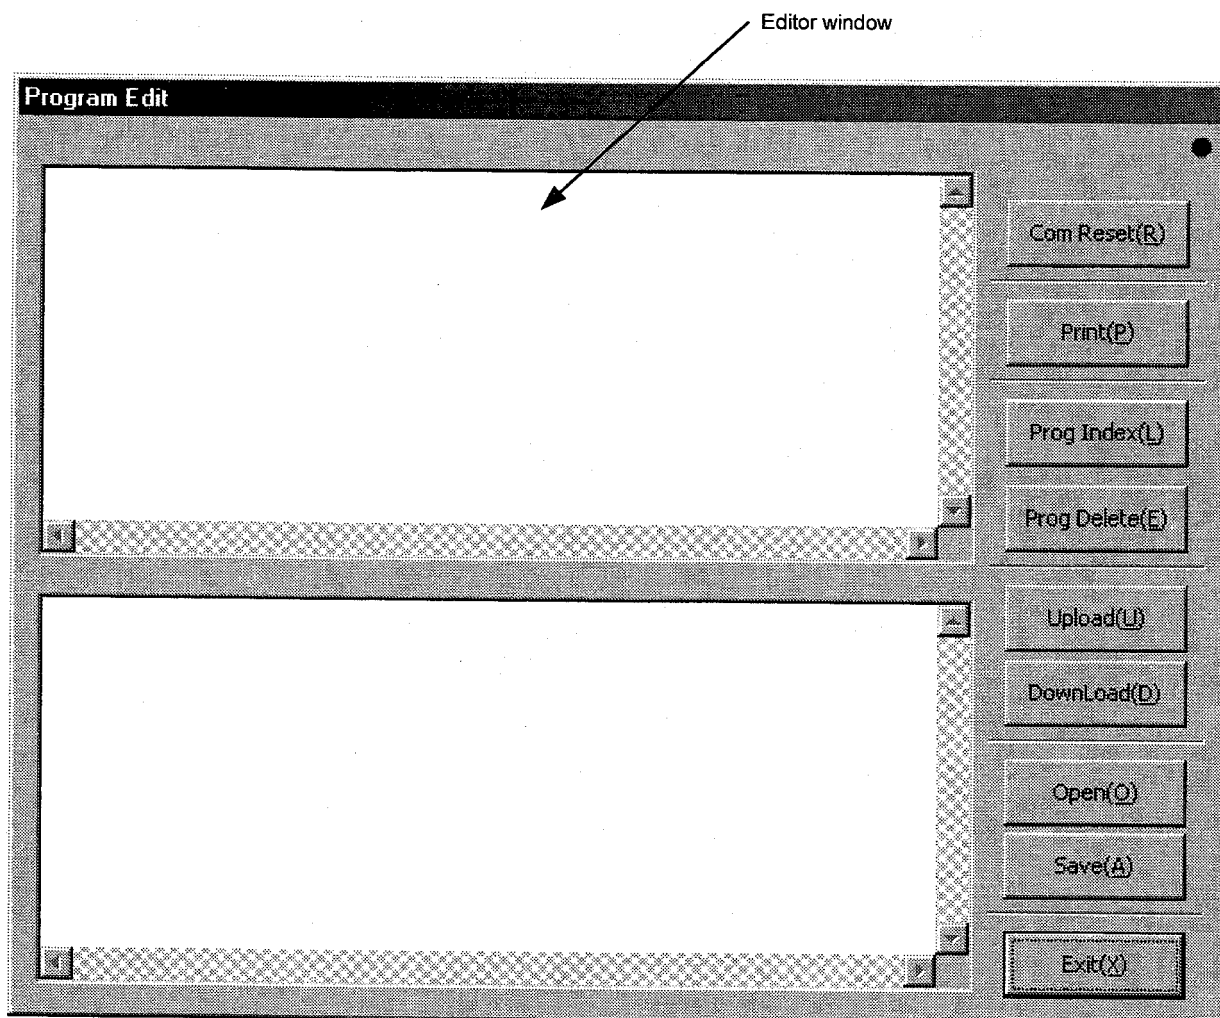

Figure 7.37 "Program Edit" dialog box
Click "Edit (E)" in the "Program Manager" menu to display the "Program Edit" dialog box (see Figure 7.37).